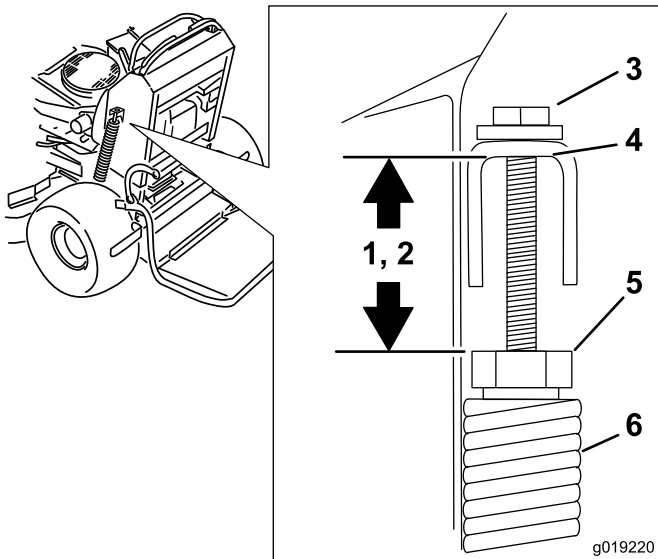

Figure 93
2. Check the length between the spring nut and the bottom of the welded U-bracket (Figure 93).
3. Ensure that the length is between 47 to 50 mm (1.8 to 2 inches) for 48 and 52-inch mower decks, and between 43 to 46 mm (1.7 to 1.8 inches) for 60-inch mower decks (Figure 93).
4. If needed, adjust the distance by adjusting the bolt on top of the U-bracket (Figure 93).